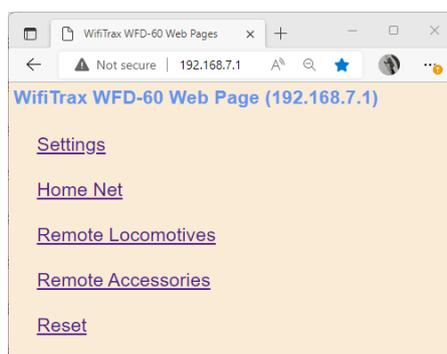

Figure 10 The Main Menu of the WFD-60
- (5) Now you are ready to start working on your WFD-60. On your computer, tablet or phone connect to its Wi-Fi Access Point, wftrx_WFD60_1_XXXXXXXX_7, where XXXXXXXX is its serial number.
- (6) Open a browser and type 192.168.7.1 into the URL textbox, then hit enter. This should display the main menu as in Figure 10.